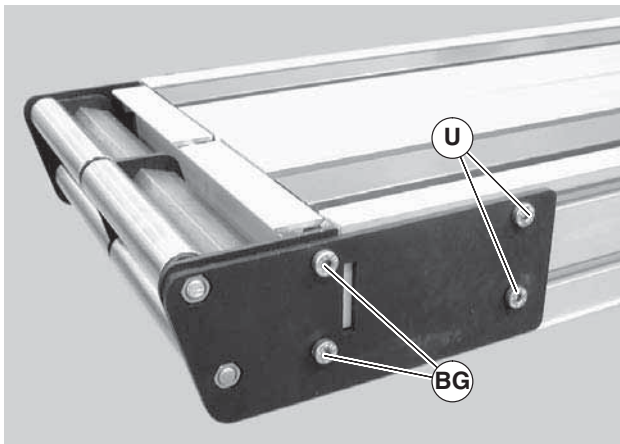

Figure 65
2. On one side of conveyor, loosen the two (2) back fastening screws (Figure 65, item U), and remove the two (2) front fastening screws (BG).